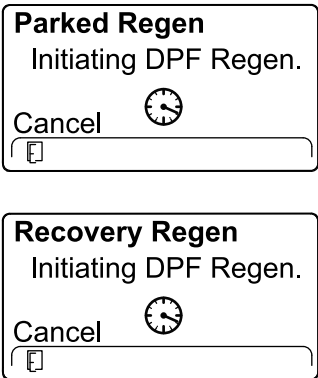

Figure 47
5. The InfoCenter displays the INITIATING DPF REGEN message (Figure 47).